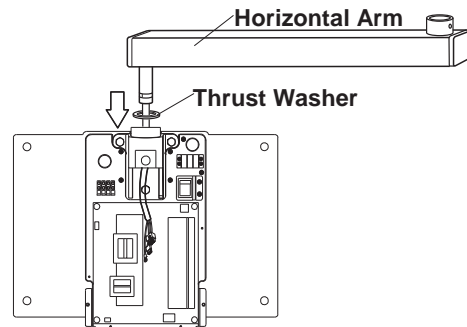

Fig.3-5 Horizontal Arm Installation-1
1. Place a thrust washer over the hole on top of the arm mounting bracket. (Fig.3-5) Insert the cable of horizontal arm into the hole, and mount to the arm mounting bracket, as shown in Fig.3-5.